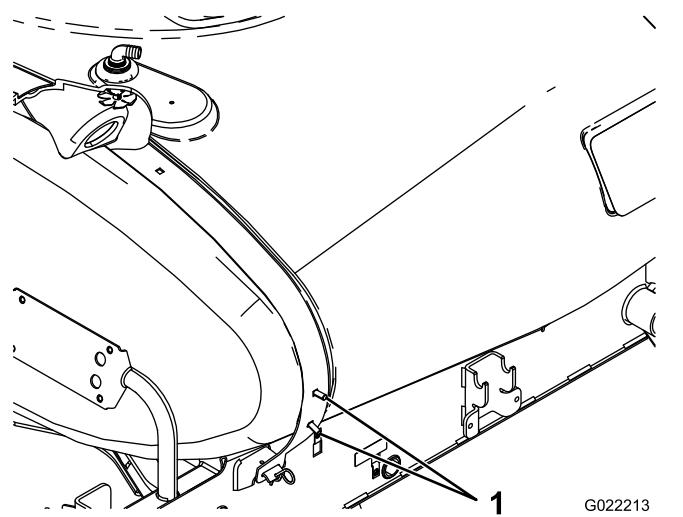

Figure 7
2. Install 2 carriage bolts to the low inboard holes on the right side of the rear tank strap (**Figure 7**).